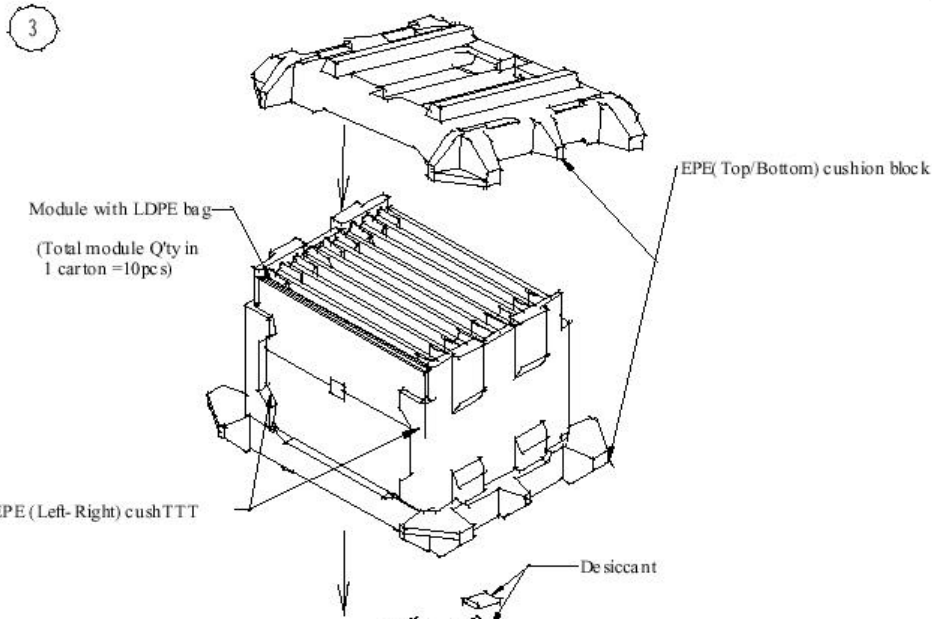

Fig.3
- (3).The Module insert into EPE assembly cushion as Fig.3, then pack into carton(carton inside wrap with LDPE bag and put 2pcs desiccant)